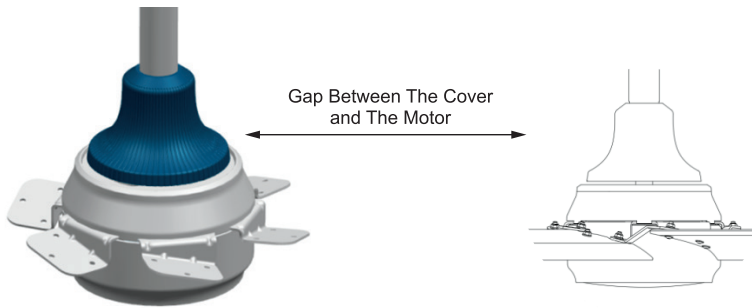

Figure. 4.3
⑤ Push the lower decorative cover downward to cover the installations on motor shaft, where there are two pre-installed M4\*10 hexagonal screws on extension tube that prevent the lower cover from sliding down. Please be aware there should be a gap between the cover and the motor (see Figure 4.3)